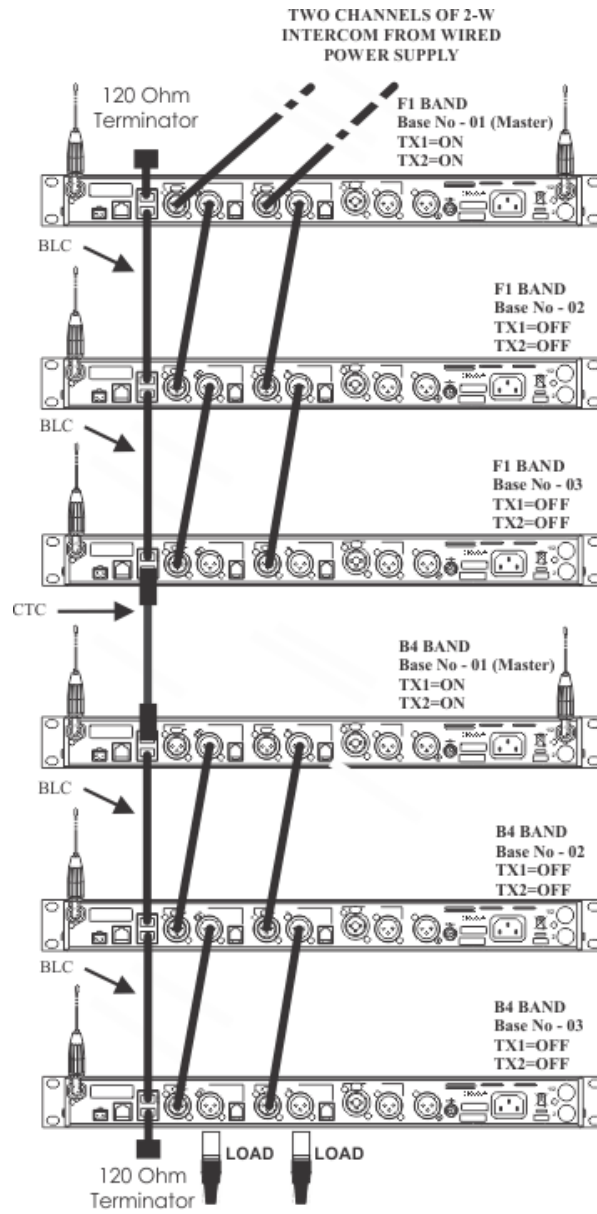

FIGURE 69. Multiple base stations connected via 2-wire audio cable and two CAN Bus networks.
- If using a party line to connect audio channels, the party line needs to be terminated by a connected PSU or a load XLR plug (P.N. TP-3 or TP-3R). See Figure 69.